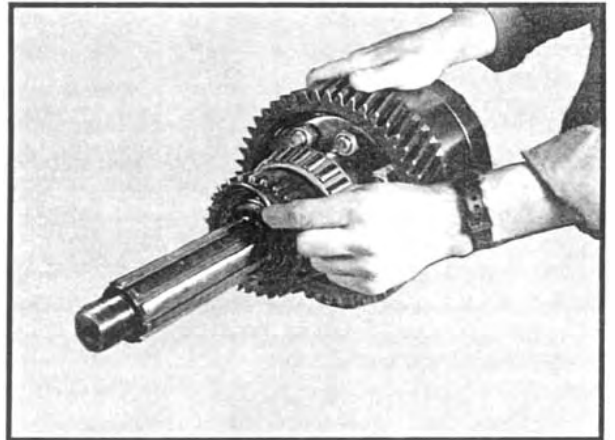

Fig 48
- Assemble the two differential case halves together and install the (12) bolts. Torque to specification.
- Install the retaining ring on the front output shaft. See Figure 48.